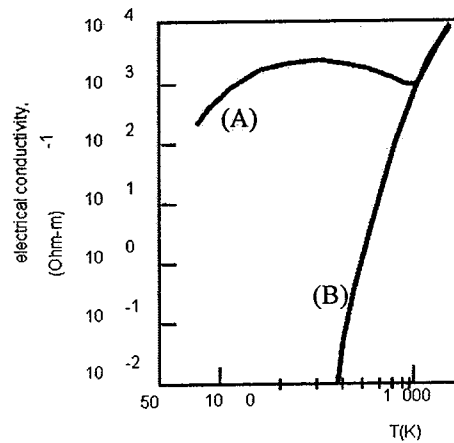

Figure 6
18. σ vs. temperature in Si can be represented in Figure 6. Choose the best combination to describe the electrical behaviour of Si.